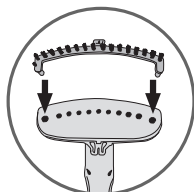

fig.10
- Insert the fabric brush into the holes located on the steam head - fig.10.